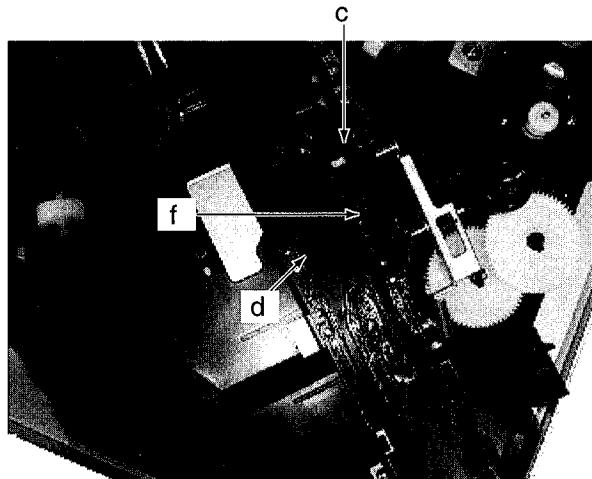

Fig 25
1) Let the arrow marked face in Figure 25 under mechanical bases "c" and "d" and then the rib of mechanical base "f" in the groove of mechanical base "e". Then slide it to the rectangular window mechanical base "g" according to Figure 27.